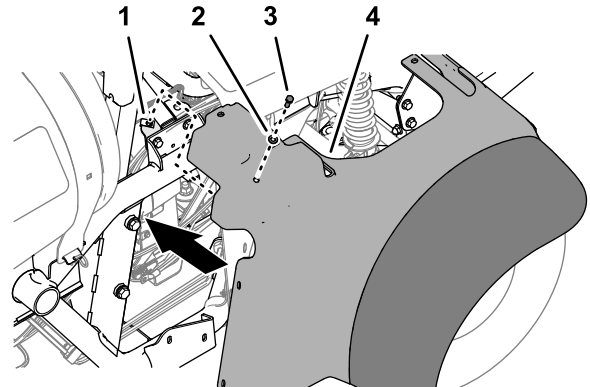

Figure 100
3. Align the right, front fender to the machine as shown Figure 100, and align the holes in the fender with the holes in the frame.
4. Secure right, front fender to the clip nut of the cross-member support (Figure 100) with the cap screw (5/16 x 1 inch) and washer (5/16 inch).